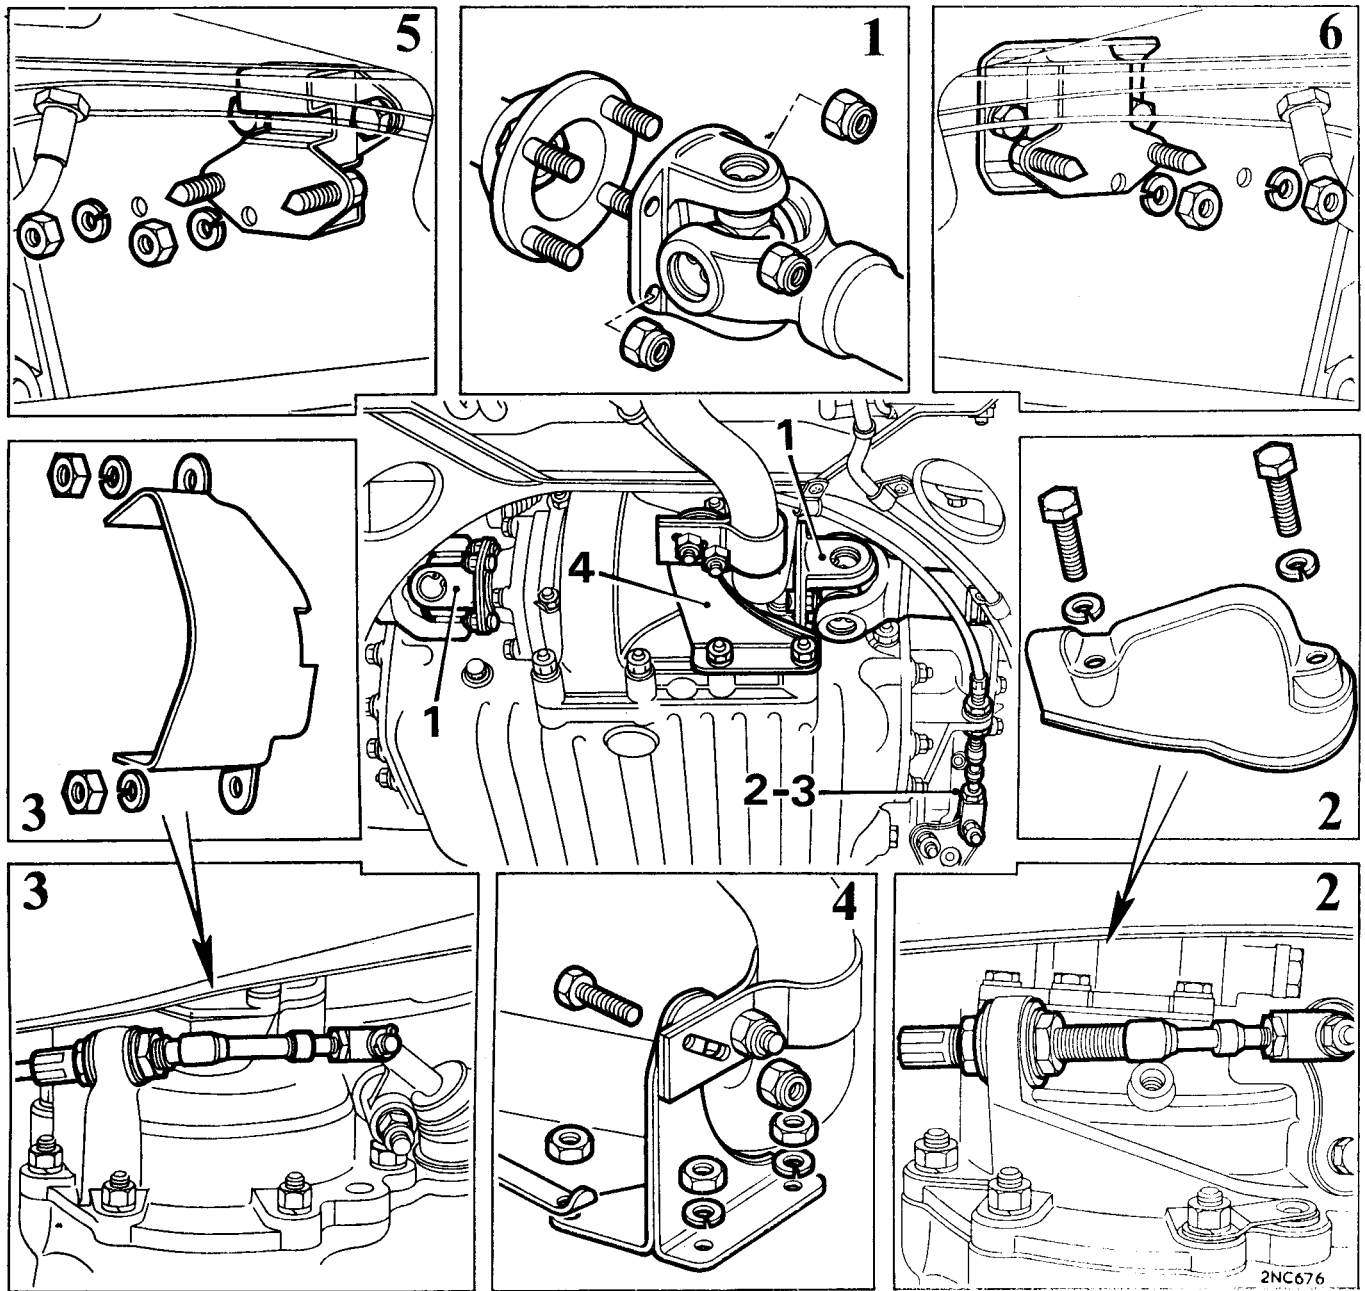

Fig. Aa.4
5. Remove the exhaust bracket from the final drive cover. The larger nut is secured by a locking tab (see Fig. Aa.4).